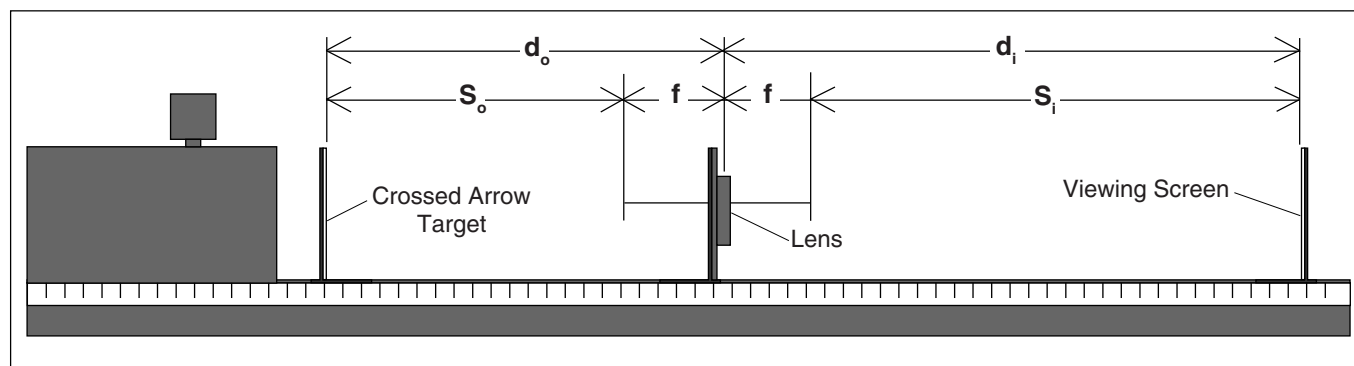

Figure 7.1: Equipment Setup
where f is the focal length of the lens, and d_o and d_i are the distance from the mirror to the image and object respectively (see Figure 7.1). The magnification of the image is given by the equation:
► **NOTE:** Instead of the above equation, you may have learned the Fundamental Lens Equation as $S_o S_i = f^2$, where S_o and S_i are the distances between the principle focus of the lens and the object and image, respectively. If so, notice that $S_o = d_o - f$, and $S_i = d_i - f$ (see Figure 7.1). Using these equalities, convince yourself that $1/d_o + 1/d_i = 1/f$ and $S_o S_i = f^2$ are different expressions of the same relationship.
Set up the equipment as shown in Figure 7.1. Turn on the Light Source and slide the lens toward or away from the Crossed Arrow Target, as needed to focus the image of the Target onto the Viewing Screen.